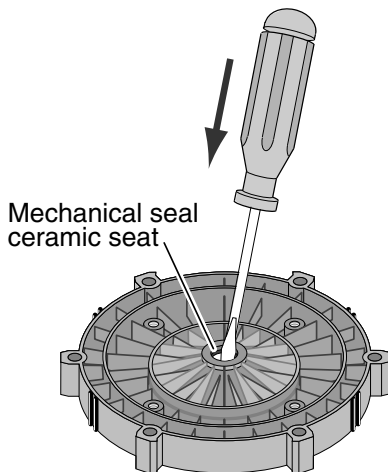

Figure 7
9. Place seal plate face down on flat surface and tap out ceramic seat (Fig. 7).